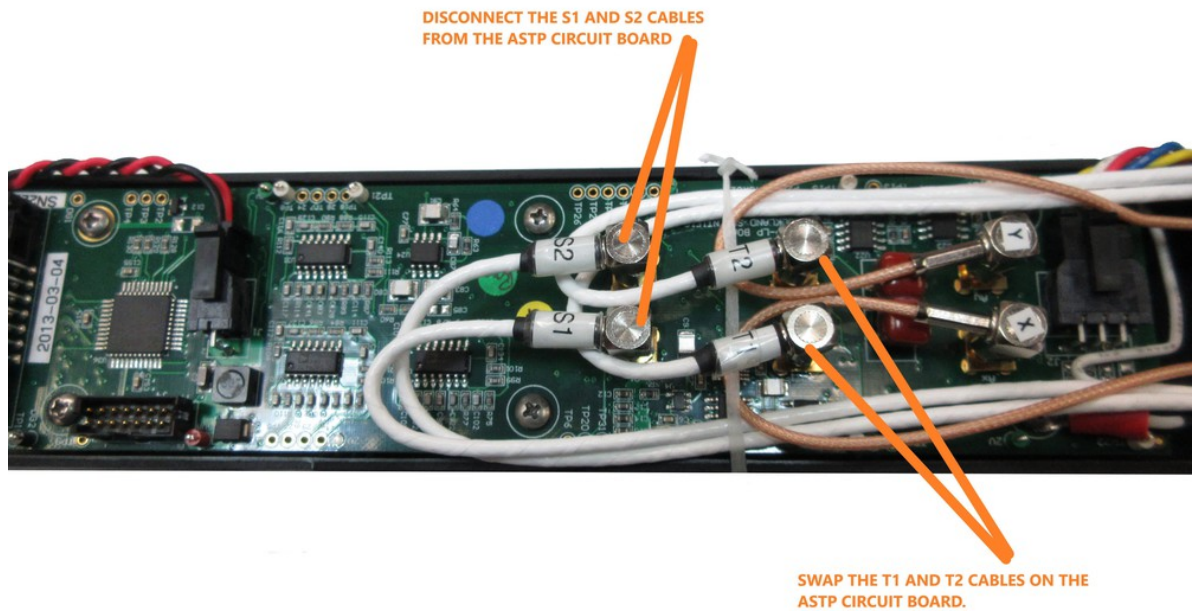

Figure 42: Modifying SMC connections on the ASTP board to identify the cause of noisy data.
- (ii) Open up the instrument and disconnect the shear probe's SMC connection to the ASTP board (Figure 42). Do a bench test. If the problem is resolved, then the SMC connector is likely damaged and the *SMC cable assembly may need to be replaced*.
- (ii) Open up the instrument and swap the two thermistor SMC connections to the ASTP board (Figure 42). Do a bench test. If the noise is now on the opposite channel, then the SMC connector is likely damaged and the *SMC cable assembly may need to be replaced*.